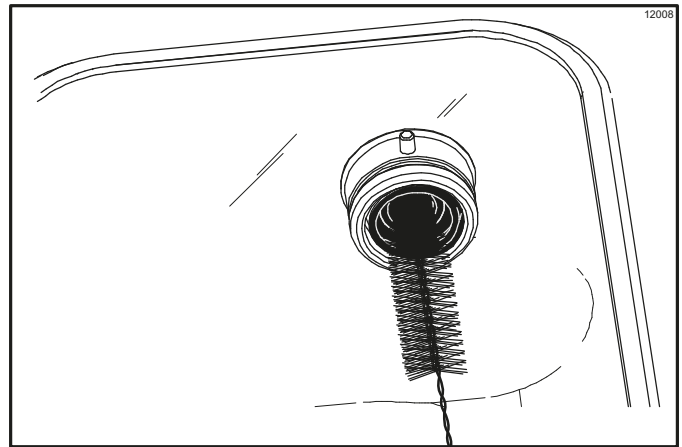

Figure 6-42
4. Using the black brush, clean the drive hub opening in the rear wall of each mix hopper. (See Figure 6-42.)